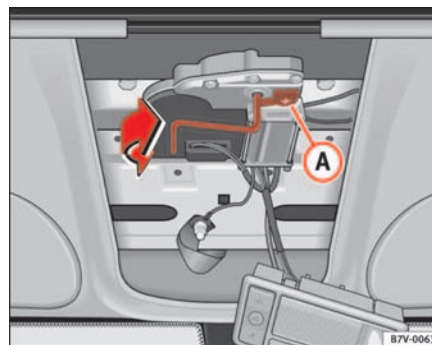

Fig. 70 Manual release
- Turn the cover **A** ⇒ fig. 70 of the lever opening in the direction of the arrow.
- Replace the lever in its casing and turn the cover **A** ⇒ fig. 70 over the lever opening.